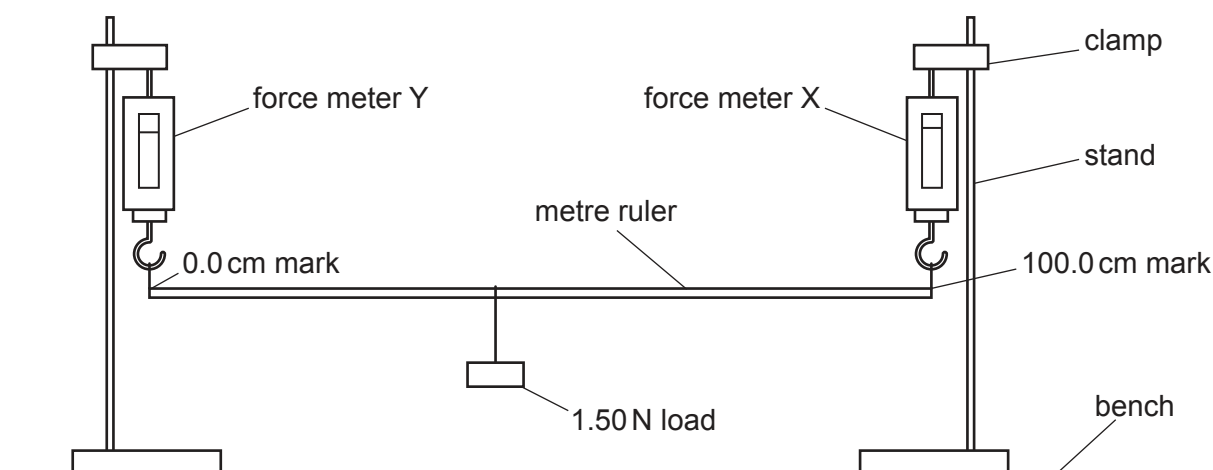

Fig. 1.1
- 2 One loop of thread must be looped around the metre ruler so that the 1.50 N load, as in (iv), may be suspended from it in different positions. The other loops must be fixed (taped) at the 0.0 cm and 100.0 cm marks so that the ruler may be suspended from the force meters as shown in Fig. 1.1.
- 3 The apparatus must be set up for the candidates as shown in Fig. 1.1, with the metre ruler suspended with its scale facing upwards. The position of the 1.50 N load on the metre ruler is not important. However, when the 1.50 N load is suspended at various points between the 10.0 cm and 90.0 cm marks, the load must be clear of the bench. The force meters and loops of thread supporting the metre ruler must be vertical. Candidates must be able to move at least one clamp slightly so that the metre ruler remains horizontal during the experiment.
Check that the apparatus is arranged as shown in Fig. 1.1.